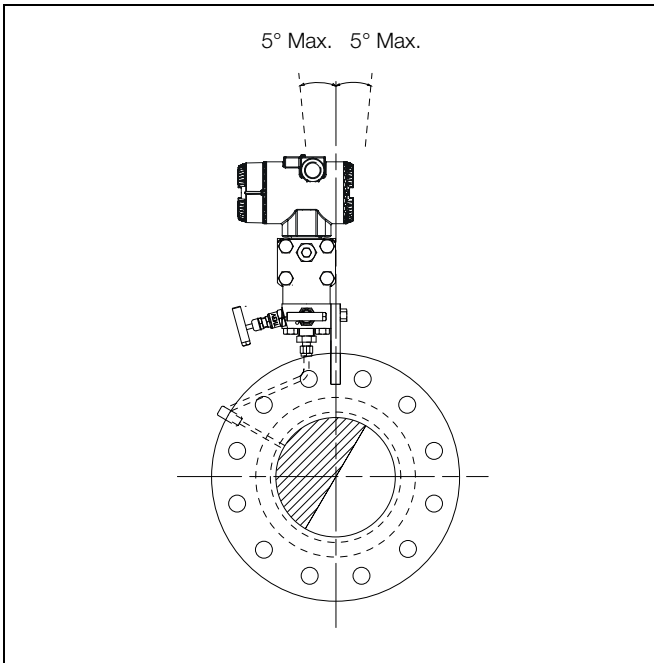

Fig. 2.2 Horizontal Pipe Mounting – Gas
To ensure condensate drains back into the pipe mount the meter **above** the pipe, no more than 5 degrees from the vertical – see Fig. 2.2.
3. When mounting the meter, be sure to position it so that the flow enters from the side as per the flow arrow on the label. Fig. 2.2 and it is orientated as per section 2.2.
- for horizontal pipe mounting – gas, refer to Fig. 2.2.